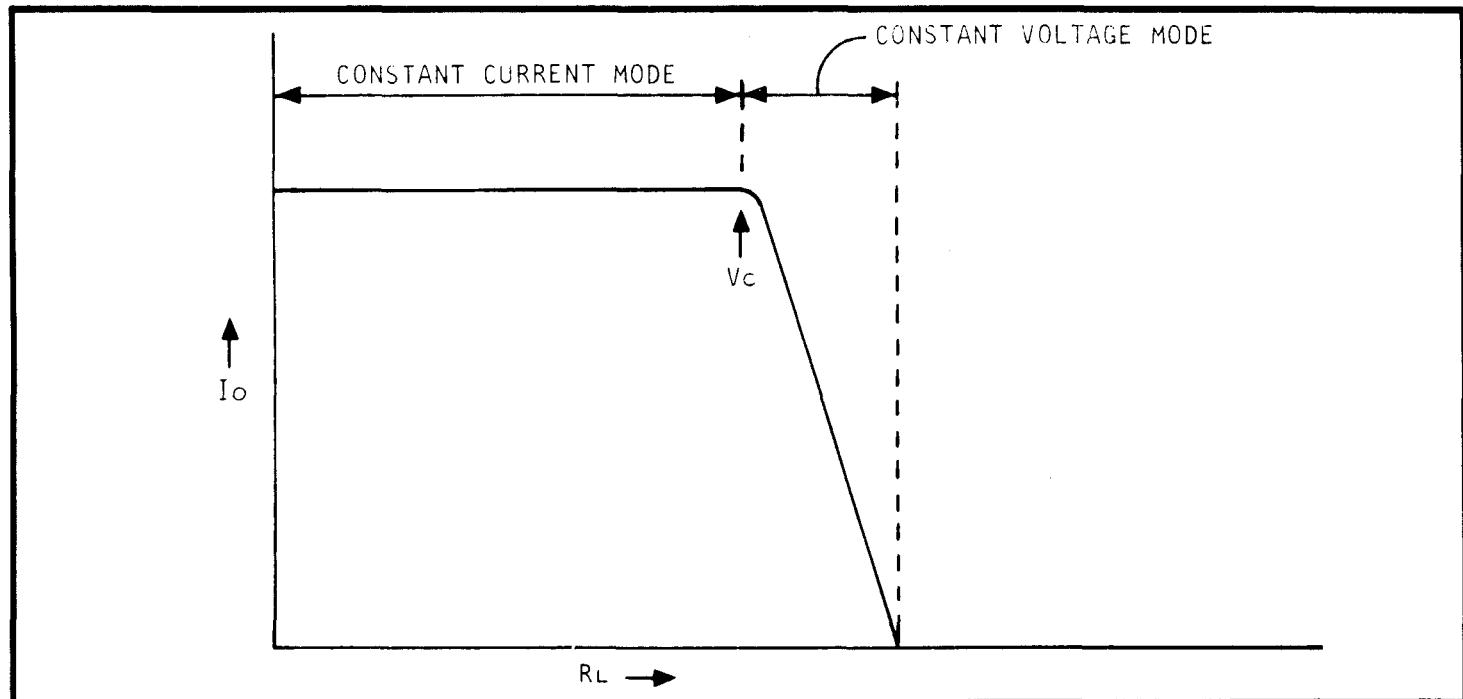

FIGURE 2-8. Voltage Limit Characteristics.
c. Constant Voltage Mode. The Model 725 can be adjusted for a compliance voltage from 10 to 90 volts. The voltage limiting will occur if the load resistance is such that $I_o R_L = V_C$. The instrument will automatically switch into a constant voltage mode (the LIMIT lamp will be lighted) such that the output voltage will not exceed the compliance setting. If the Model 725 is used as a current sink, an output voltage greater than 100 could be developed regardless of the compliance setting. The voltage limiting characteristic can be seen in Figure 2-8.